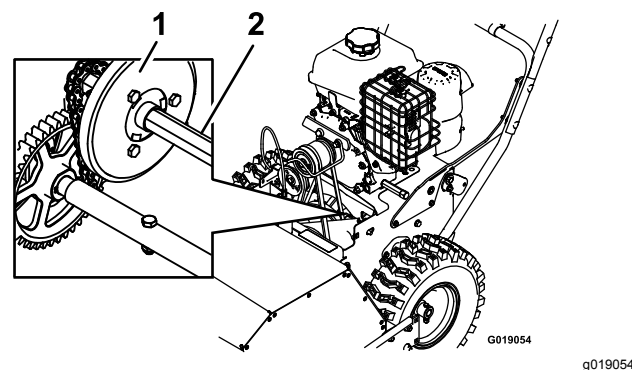

Figure 21
4. Dip a long, clean, small-tipped paint brush in automotive engine oil and lightly lubricate the hex shaft (Figure 21).
Important: Do not get oil on the rubber wheel or the aluminum friction-drive plate as the traction drive will slip (Figure 21).